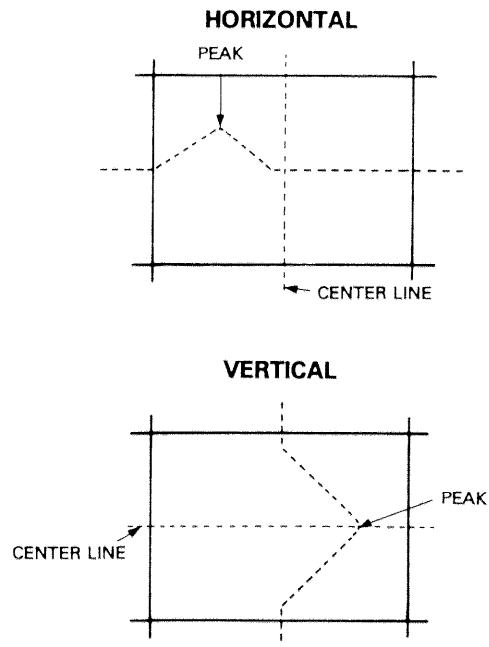

Fig. 7
14. Press the SOUND button on the remote to select the phase adjustment. Use the 7, 9, 8 and 0 buttons to adjust the internal cross-hatch phase as shown in Fig. 7 below.